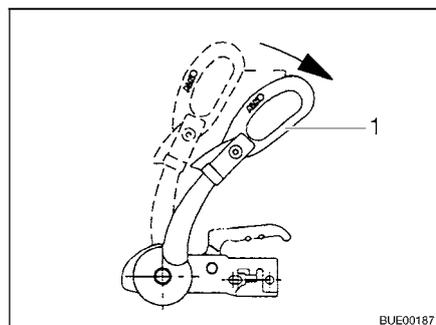

Fig. 198 Stabilising handle
- Open the stabilising handle (Fig. 198,1).